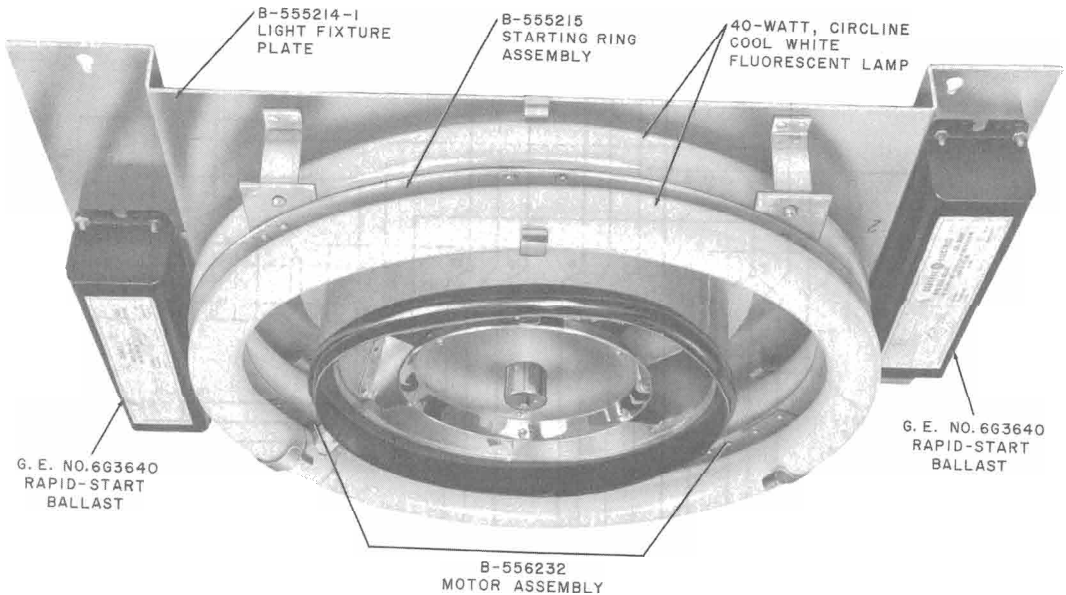

Fig. 4—KS-19207, List 3 Light and Blower Unit Plus Lamps
2.03 *KS-19207, List 3 Light and Blower Unit (Fig. 4)*